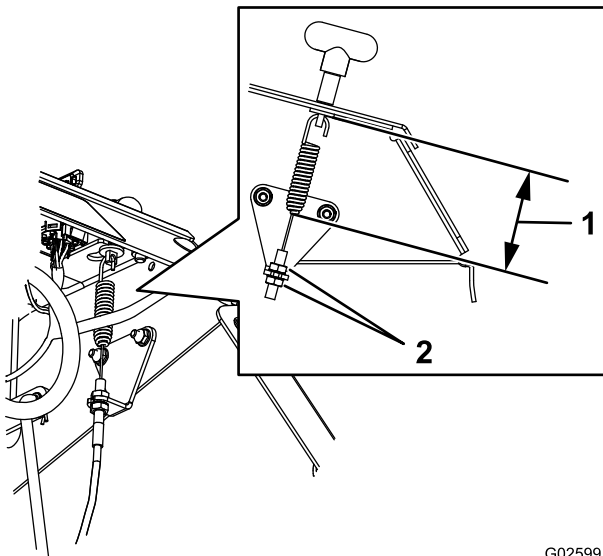

Figure 54
4. Loosen the jam nut on the brake cable under the console (Figure 54).
5. Engage the parking brake (Figure 54).
6. Adjust the jam nut position until 7.9 cm (3-1/8 inch) from the bottom of the link to the bottom of the spring (Figure 54).
7. Secure the adjustment of the cable by tightening the jam nuts (Figure 54).